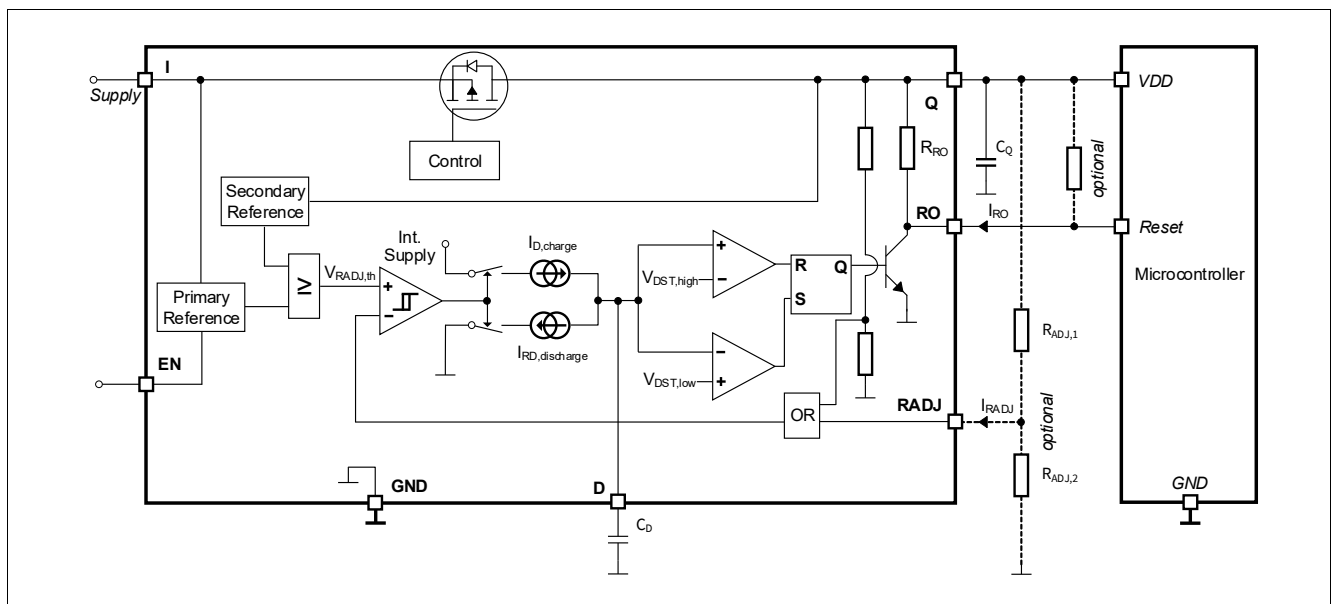

Figure 7 Functional block diagram reset
- $R_{ADJ,1}, R_{ADJ,2}$: Resistors of the external voltage divider, see Figure 7
$V_I = 13.5\text{ V}$, $T_j = -40^\circ\text{C}$ to 150°C ; all voltages with respect to ground; direction of currents see Figure 7 (unless otherwise specified)
$V_i = 13.5\text{ V}$, $T_j = -40^\circ\text{C}$ to 150°C ; all voltages with respect to ground; direction of currents see Figure 7 (unless otherwise specified)